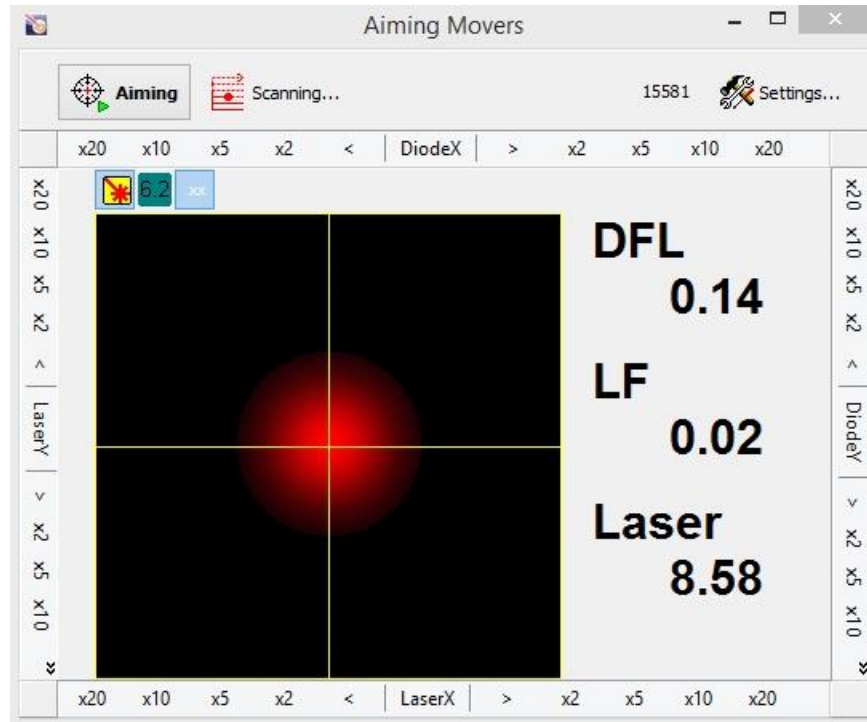

Figure 10: Close to aligned laser and diode
- Once the auto alignment is completed the aiming menu may look like this (Figure 10).
acceptable range, click the “aiming” button (Figure 10).
- The red circle in Figure 10 is a graphical representation of the laser on the diode and can help you understand the general centering.